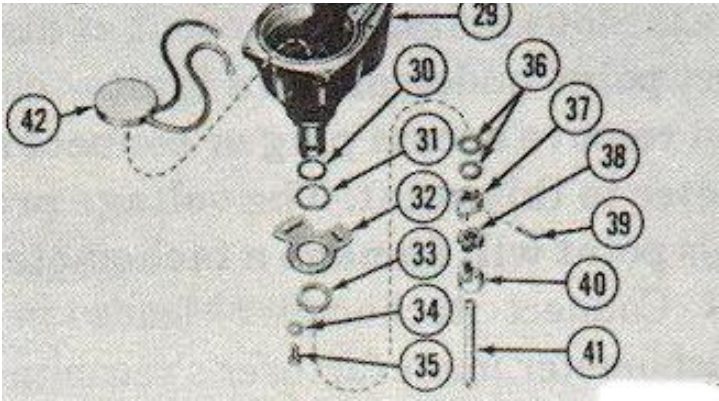

Figure 2-33. Ignitor-exploded view.
- (1) Remove six screws (58 fig 2-33) and remove cover (3 fig 2-33) and gasket (4 fig 2-33).
- (2) Disconnect leads from coil primary terminals.
- (3) Remove two screws (20 fig 2-33) and remove coil (21 fig 2-33) from ignitor housing (29 fig 2-33).
- (1) Remove ignitor cap (6 fig 2-33).
- (2) Remove rotor (7 fig 2-33)
(3) Loosen screw (54 fig 2-33) and remove condenser lead.
(4) Remove screw (51 fig 2-33) and remove condenser (52 fig 2-33).
(5) Remove screw (9 fig 2-33) and remove breaker point base and arm (55, 56 fig 2-33).
- (1) Position breaker point base and arm (55 and 56 fig 2-33) and install screw (9 fig 2-33).
- (2) Adjust breaker point contact gap to .020-inch, + or - .002-inch.
- (3) Adjust breaker arm spring tension from 17 to 22 ounces. Refer to paragraph 2-51.
- (4) Install condenser (52 fig 2-33) on breaker plate and secure with screw (51 fig 2-33).
- (5) Attach condenser lead to terminal screw (54 fig 2-33) and tighten.
- (6) Install rotor.
- (7) Install ignitor cap.
- (1) Install ignitor coil into ignitor housing (21 fig 2-33).
- (2) Install screws (20 fig 2-33) and tighten securely.
- (3) Attach wires to coil primary terminals and tighten nuts.
- (4) Install ignitor cover (3 fig 2-33) and gasket (4 fig 2-33).
- (5) Install six lock washers and screws (58 fig 2-33) and tighten securely.
- (6) Connect battery cable to battery negative terminal.